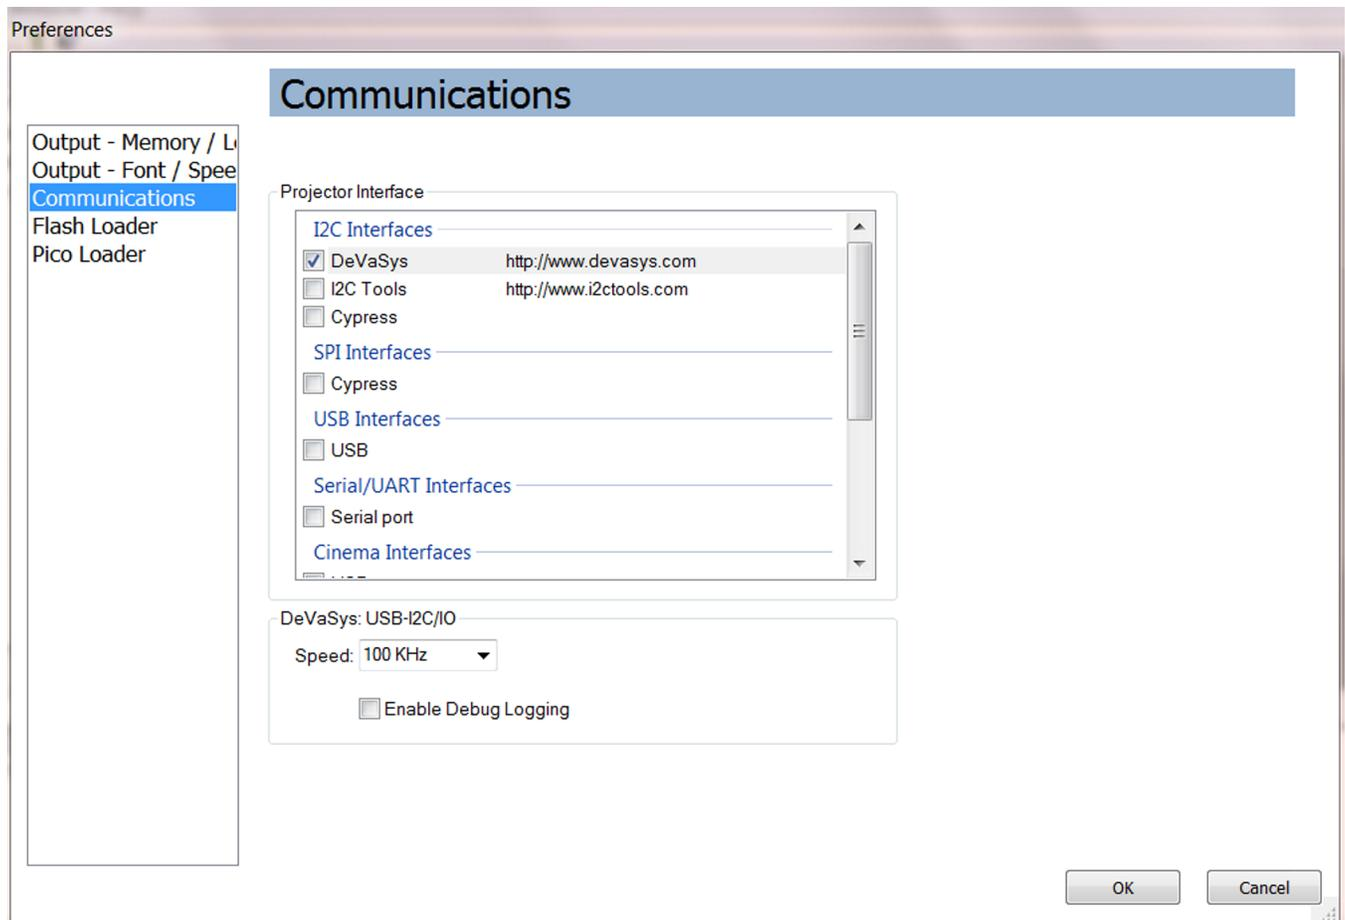

图 9. I²C Communication Options
1. In the menu bar of DLP Composer GUI, navigate to *Edit* → *Preferences* → *Communication* → *Projector Interface* → *I²C Interfaces* as 图 9 shows and select DeVaSys (or USB from the *USB Interfaces* sub menu).
2. At the end of the dialog box, select 100 kHz as the I²C speed (see 图 9).